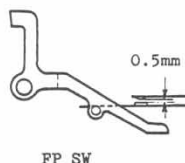

Fig. 4-53
- 2 SW actuator pin on Diaphragm checker hook (D50) must turn "ON" the SW, when the hook receptacle slips off the hook and reaches the range shown in Fig. 4-53. For the adjustment, bend the "*" marked portion of the SW plate.
Adjust the timing SW contact plate, so that 0.2~0.3 mm clearance remains between the lever and cam of the timing SW, when the shutter is cocked. Refer to Fig. 4-53.
Lower SW plate must contact the actuator pin on the 1st intermediate lever. Adjust the clearance of the contact points to 0.5mm. However, optimum clearance varies case by case, according to Time-lag-adjustment. Refer to Fig. 4-53.